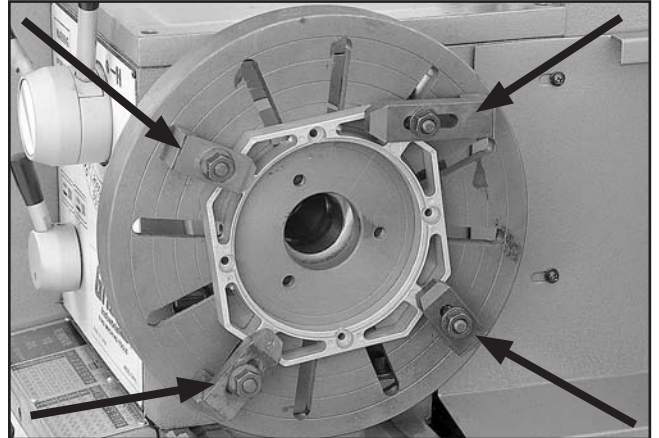

Figure 34. Workpiece clamped to the faceplate.
3. With assistance, place the workpiece onto the faceplate and clamp it in place with a minimum of three independent clamping devices (see **Figure 34** for an example).